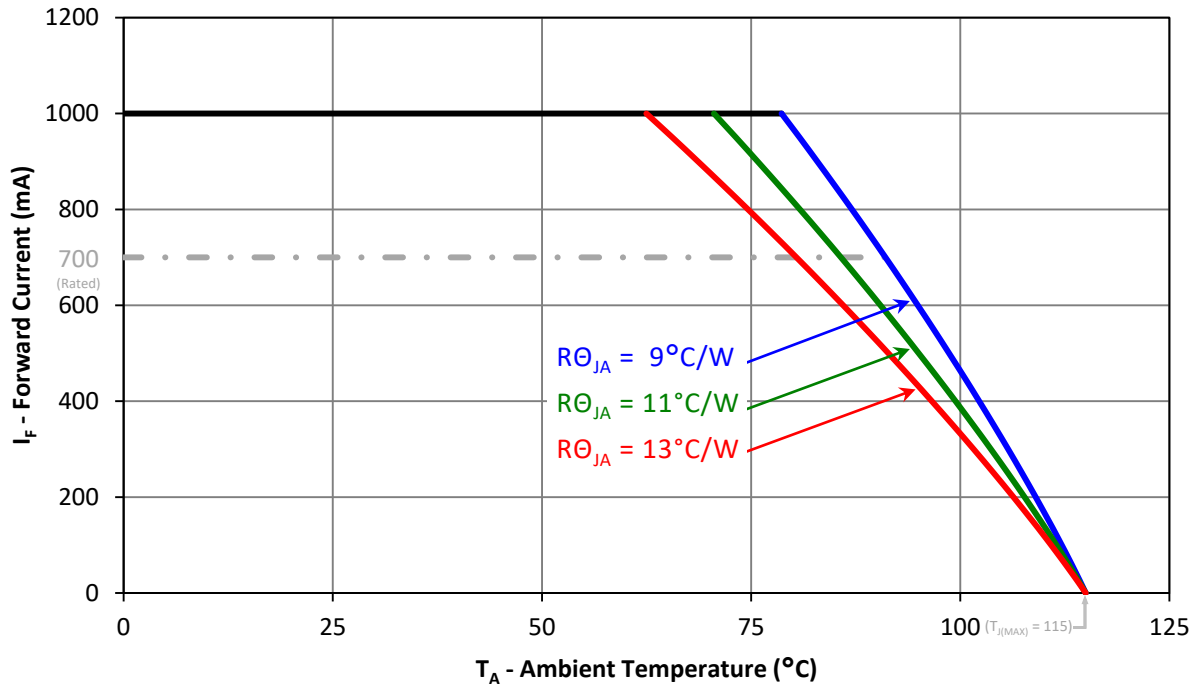

Figure 11: Maximum forward current vs. ambient temperature based on $T_{J(MAX)} = 115^\circ\text{C}$
- Maximum DC forward current is determined by the overall thermal resistance and ambient temperature. Follow the curves in Figure 11 for current derating.
Notes for Figure 11: